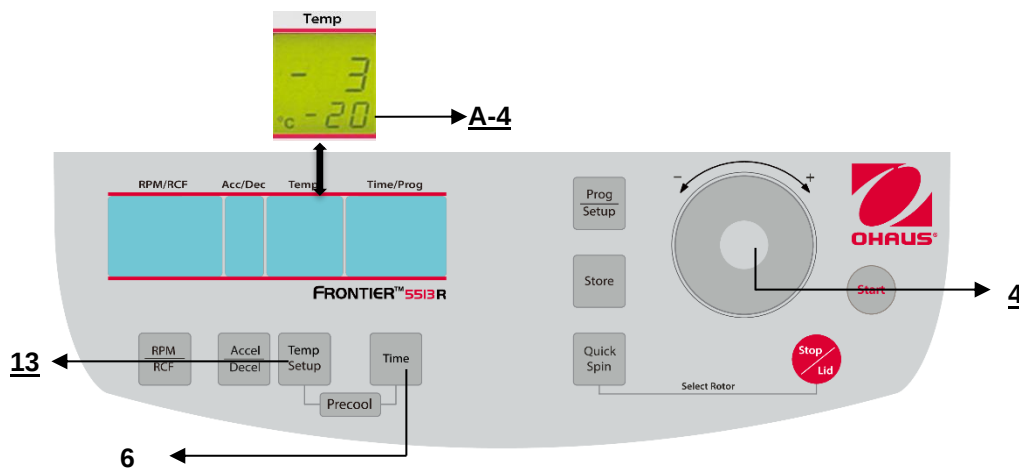

Figure. 16
The value is indicated permanently in the display (figure 16) - before, during and after the run.
Close the lid, then press the key **"Time"** (7) (refer to figure 16) and the key **"Prog/Setup"** (3) at the same time and hold them.